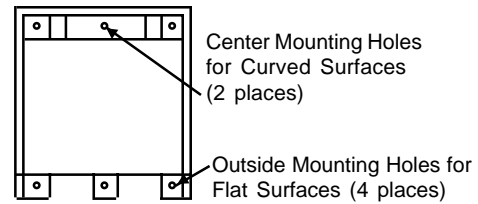

Figure 3-5. Plastic (non-trimming) Junction Box Mounting
2. See Figure 3-5 or 3-6, as applicable. Hold the junction box at the desired mounting location, ensuring it is close enough to the Load Link(s) to allow a drip loop in the Load Link cable. Mark the mounting holes.